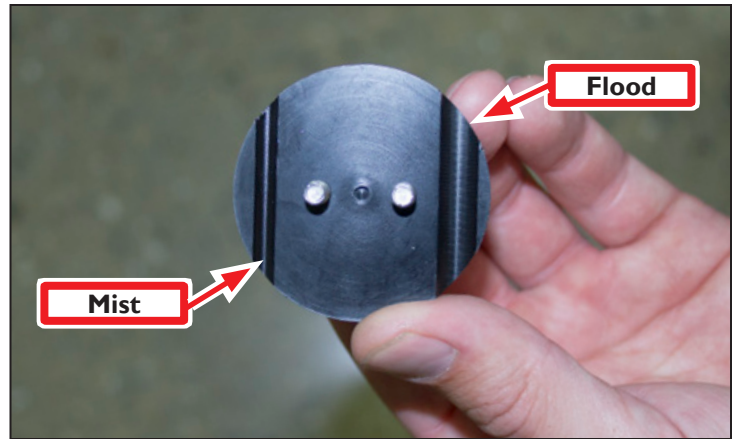

Figure 20
2. Remove cap from Hub; identify two slots for flood and mist coolant (see **Figure 20**) and set aside.